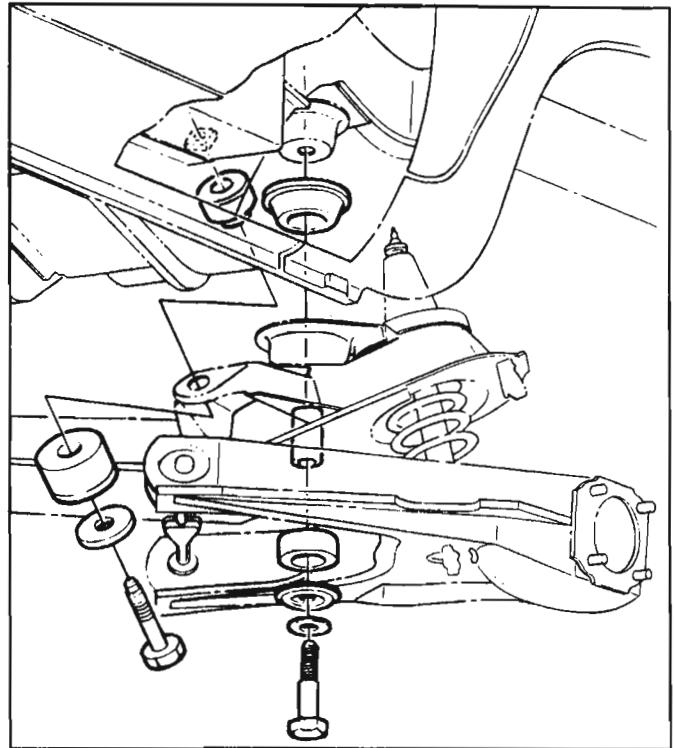

Fig. 3-34—Rear Crossmember Mounting
side (fig. 3-34). Carefully lower crossmember to floor by "rolling" it slightly forward and pulling (not bending) transmission accelerator control rod to one side (if so equipped).
1. Replace any mount part which appears defective. Refer to Figures 3-34 and 3-35. It may be desirable to tape the mounts to hold them in place when installing the crossmember.
2. Set the crossmember in place and install the two outer mounts to the body (fig. 3-34). Do not tighten.